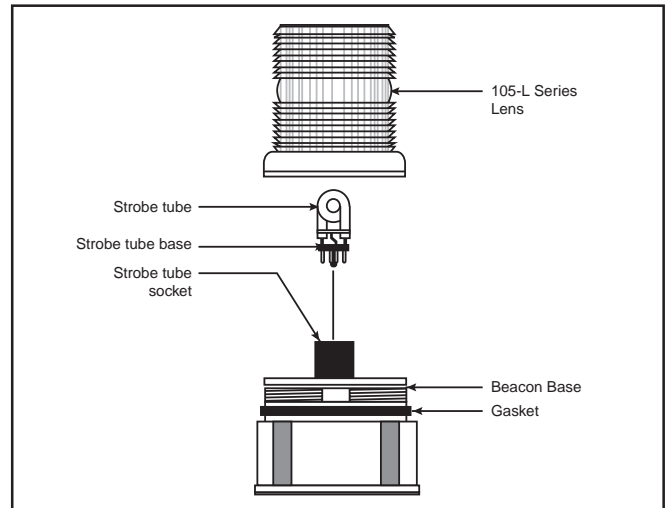

Figure 2. Strobe Tube Replacement
- a. Grasp the strobe tube by its base and pull straight up out of the strobe tube socket (Figure 2).